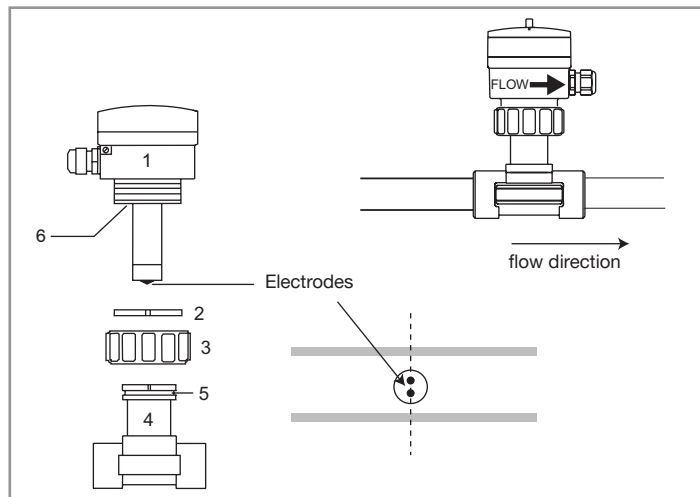

Fig. 8: Installation into the pipe of a 8045 with a G2" nut
- Check that there is a seal (see mark 6, Fig. 8) on the flow sensor.
- Insert the nut (see mark 3, Fig. 8) on the fitting.
- Insert the snap ring (mark 2, Fig. 8) into the groove (mark 5, Fig. 8).
- Insert the device (mark 1, Fig. 8) into the fitting.
- Tighten the nut (mark 3, Fig. 8) by hand on the device.